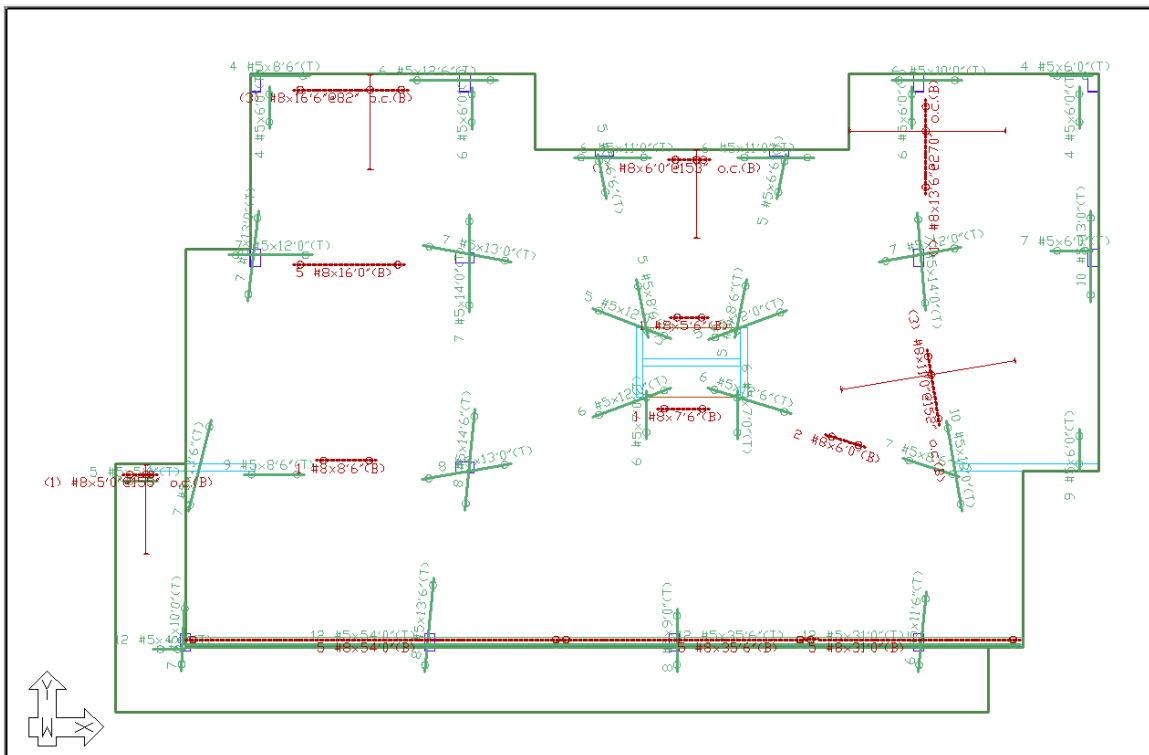

FIGURE 9-129
- Your screen should now look like **FIGURE 9-129**.